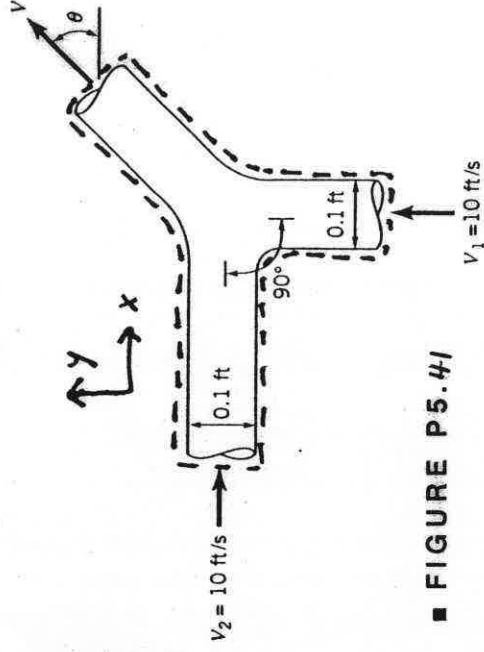

FIGURE P5.41
5.41 Two water jets of equal size and speed strike each other as shown in Fig. P5.41. Determine the speed,  $V$ , and direction,  $\theta$ , of the resulting combined jet. Gravity is negligible.